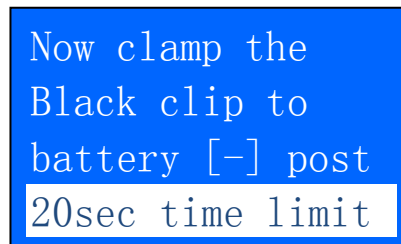

Figure 35
8. Once it has finished analysing, it will prompt you with an instruction (Fig. 35) stating that you have should unclamp the Black tester clip from the engine or chassis body and transfer to the battery negative [-] terminal within 20 seconds time limit if not the testing procedure has to be repeated again as the gathered data will be lost.